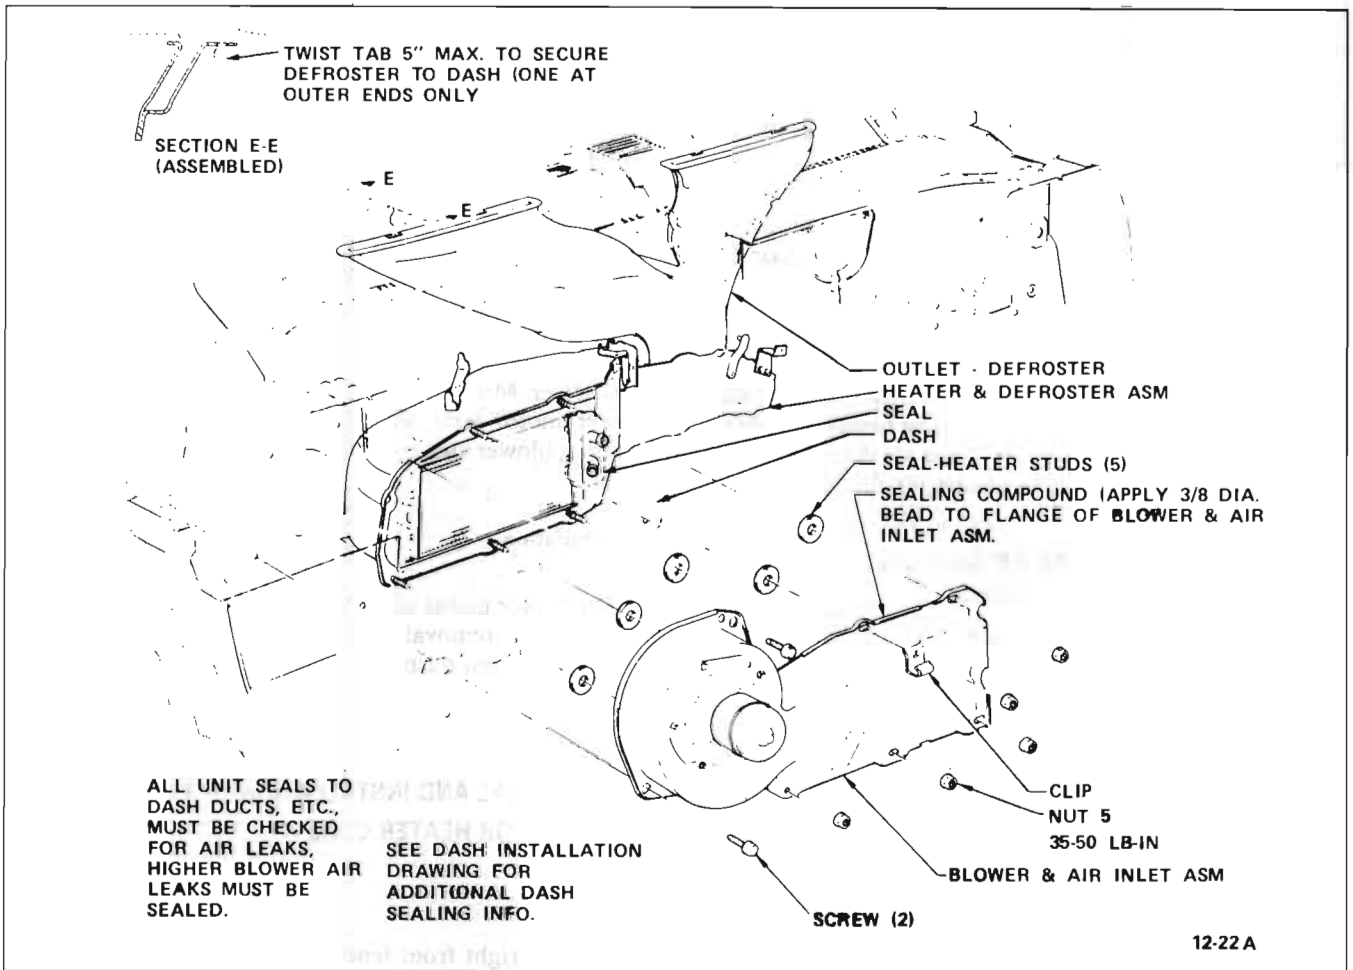

Figure 12-3 Heater Installation
2. Heater Assembly - The heater assembly (see Figure 12-3) houses the heater core and the doors necessary to control mixing and channeling of the air. Air entering the heater assembly divides into two channels: (1) through the heater core and (2) through a by-pass around the heater core. The ratio of the mixture of heated to unheated air is controlled by the temperature door. An outside air inlet door initiates the air flow through the heater assembly. A defroster door controls the amount of air directed through the defroster outlets. The defroster door may be positioned to direct all air to the defroster outlet, all air to the floor outlet, or to both the defroster and the floor outlets.
3. (Blower Motor and Air Inlet Assembly) Disconnect blower motor wire. Remove five nuts and two screws securing blower and air inlet assembly to dash. See Figure 12-3.